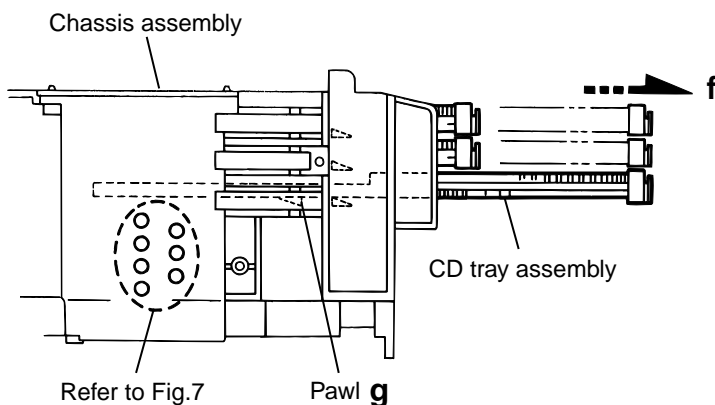

Fig.6
12. Make sure that the driver unit elevator is positioned as shown in Fig.6 from to the second or fifth hole on the left side face of the CD changer mechanism assembly.
14. Pull out all of the three stages of CD tray assembly in the arrow direction "f" until these stages stop (See Fig.6).